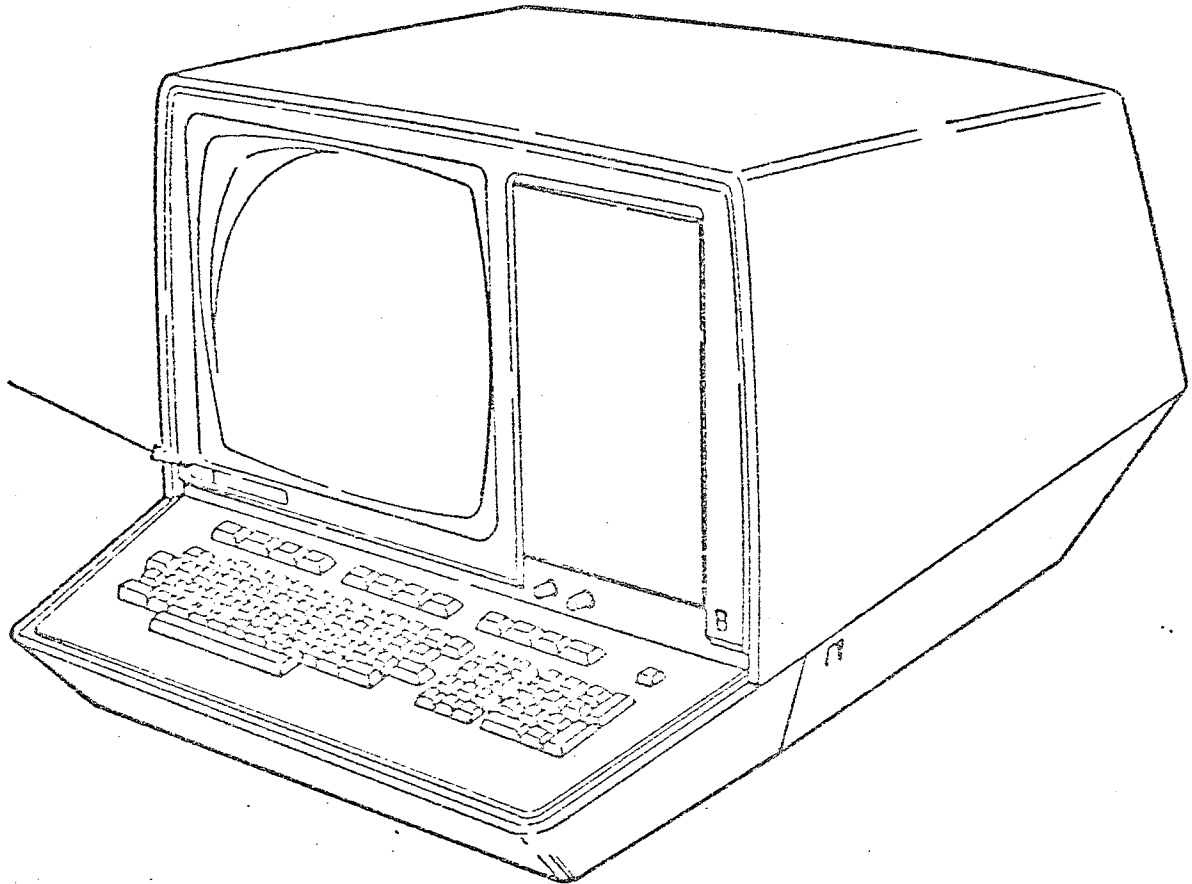

Figure B-1
- B.0 Location of Labels — The following labels shall be attached to each unit. See figures B-1 & B-2 for locations.
- B.4 Control Data Logo — This logo shall be placed on the front of the unit below the viewing screen as shown in figure B-1.